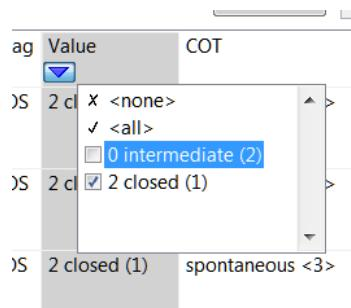

Figure 41 Filter menu
In order to filter on a column value, move the mouse over the respective column and press the appearing **Filter button**. The Filter menu for this column is opened. It is shown in Figure 41.
The list shown in the Figure 41 will only show Telegrams with value “2 closed (1)”.